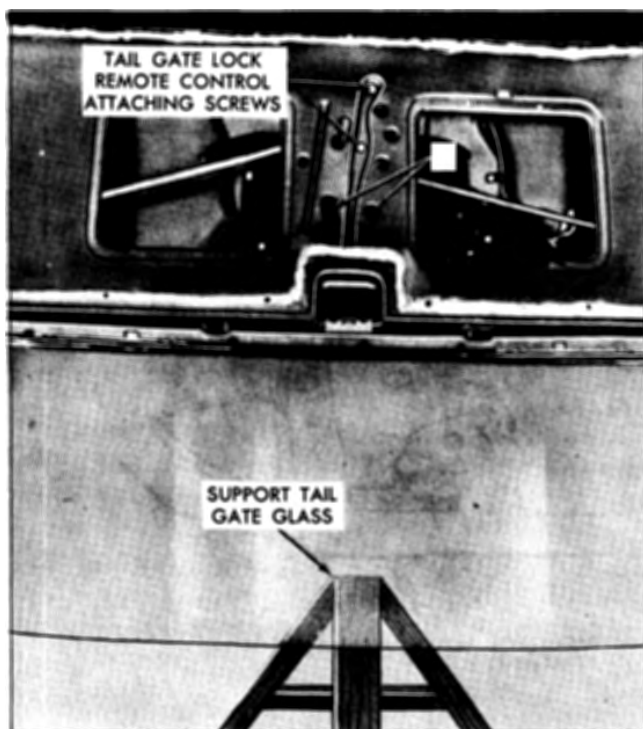

Fig. 5-13 Removing Outside Handle
2. Detach inner panel water deflector sufficiently to gain access to holes A for removal of handle attaching nuts (Fig. 5-13).
4. Support portion of glass extending out of tail gate (Fig. 5-13).
2. Detach tail gate inner panel water deflector sufficiently to gain access to holes A for removal of attaching nuts (Fig. 5-13).
**CAUTION:** Support portion of glass extending out of tail gate (Fig. 5-13).
2. Loosen tail gate lock remote control attaching screws (Fig. 5-13) and move remote control towards bottom of tail gate sufficiently to disengage end of handle push rod from hole in remote control lever.